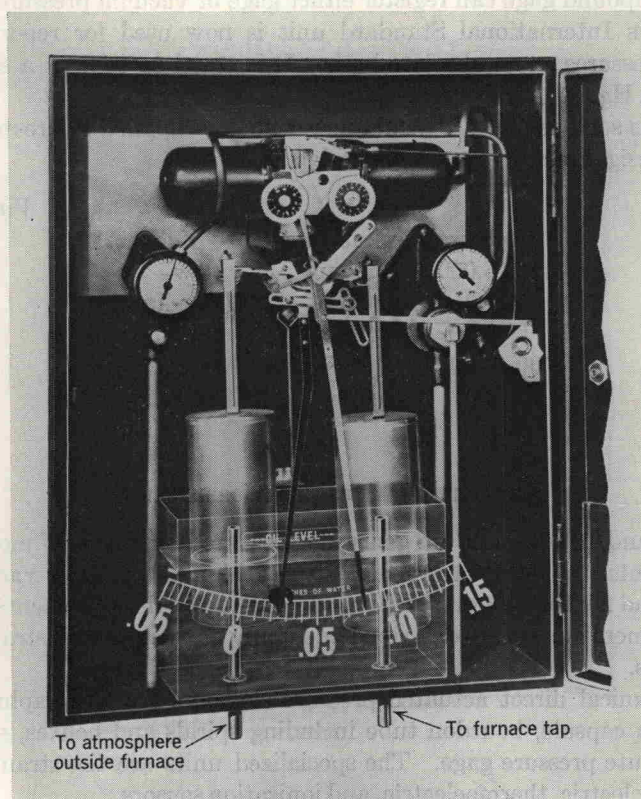

Fig. 2. Balanced-beam bell-type pressure gage.
**Inverted-Bell-Type Pressure Element.** Figure 2 shows a cross-sectional view of an inverted-bell-type pressure indicator. This unit is made up of two inverted bells, partly immersed in oil which acts as a liquid seal, supported at their upper ends on a balanced pivoted beam. The process pressure is introduced under the bell on the